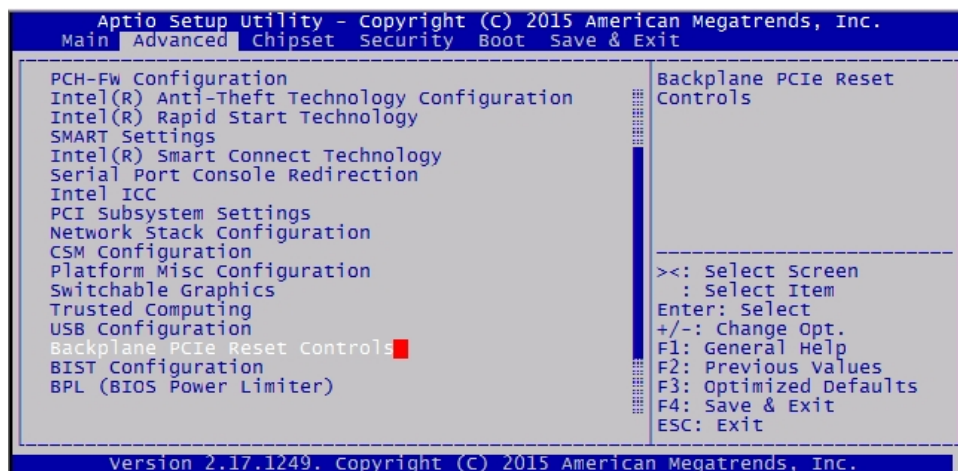

Figure 7-18: Selecting the PCIe Backplane Configuration option
1. In the BIOS Menu, select the Advanced tab, and then select *Backplane PCIe Reset Controls* (Figure 7-18 below).